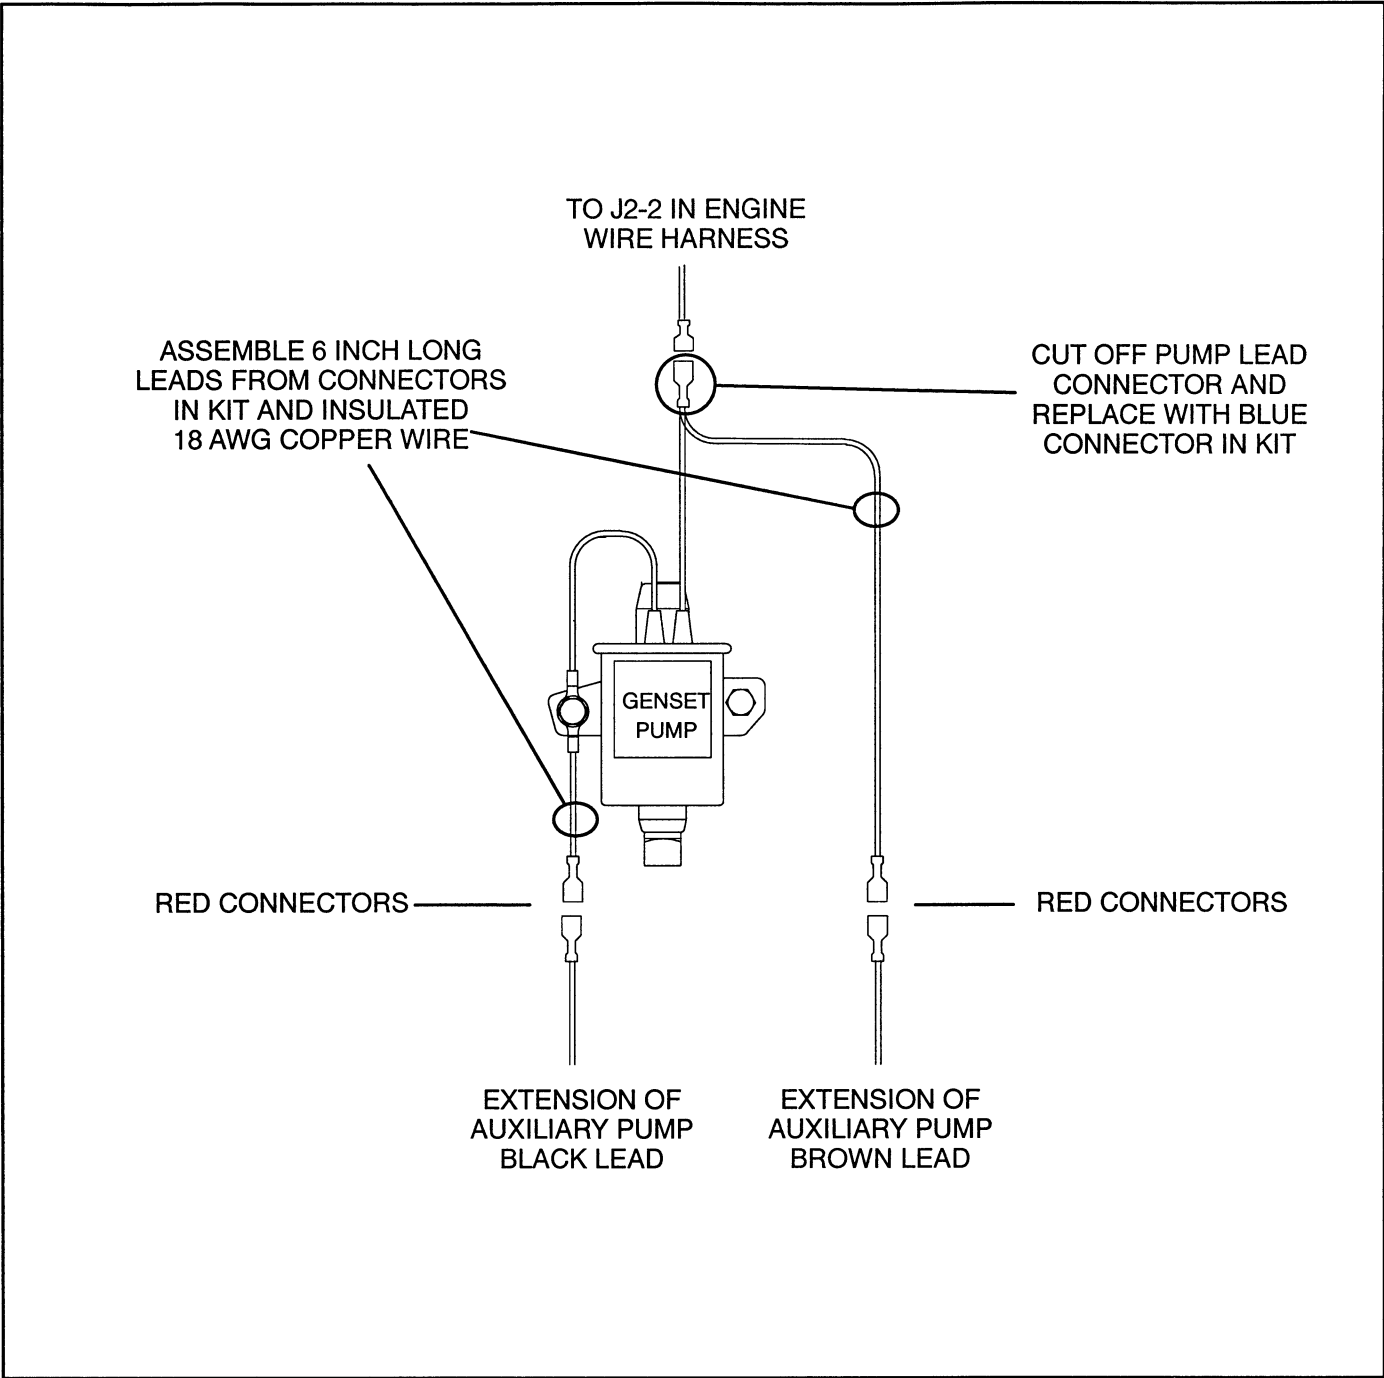

FIGURE 2. RECOMMENDED WIRING CONNECTIONS
2. Using connectors in the kit and a short length of insulated 18 AWG copper wire, assemble a ground lead and secure it to the genset pump mounting screw (Figure 2).
3. Disconnect the genset pump lead from the engine wiring harness and cut off the connector. Using connectors in the kit and a short length of insulated 18 AWG copper wire, assemble a lead for connecting the auxiliary pump and secure it and the genset pump lead together with a crimp-on quick connector in the kit (Figure 2).
7. Connect the two leads from the auxiliary fuel pump to the new connectors at the genset fuel pump such that the two pumps are electrically parallel. (Figure 2).